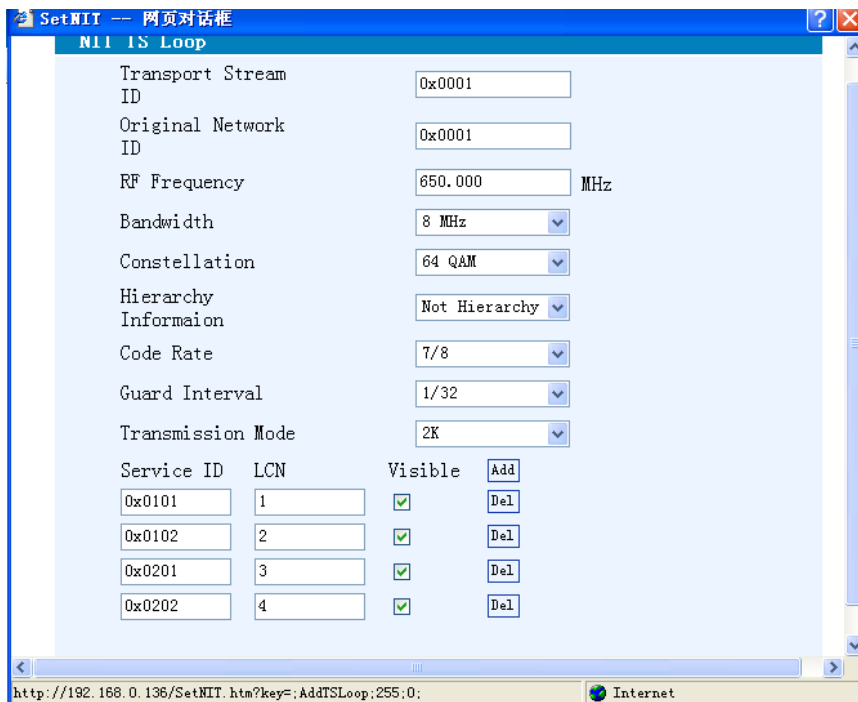

Figure-6
**Add** Click “Add” from this page, it will display the screen as Figure-6 where it requires to add Service ID and configure other parameters for the programs.